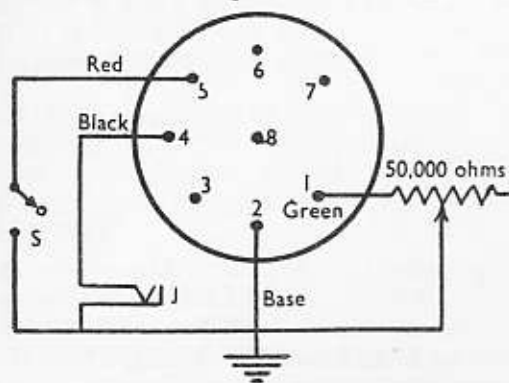

Fig. 3. Circuit diagram of the gain and BFO control.
(3) J1 complete with can is now removed to make room for BFO switch, volume control and headphone jack, which will all need to be small components to fit in. The leads which are needed are: Black lead from pin 4; red lead from pin 5; green lead from pin 1; and a ground in place of pin 2. The leads from pin 6 and 7 have already been removed.
(4) The construction of the panel for the extra controls is best seen from the photographs. It utilises the small front panel of FT-230 A. The circuit of Fig. 3